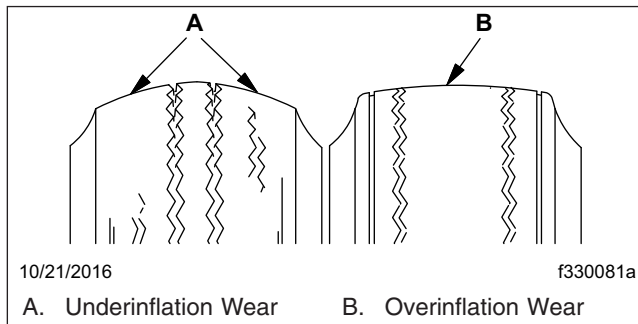

Fig. 10, Tire Damage Due to Underinflated or Overinflated Tires
- Check the inflation pressure of the tires. An underinflated tire causes tread wear completely around both tire shoulders. An overinflated tire causes tread wear in the center of the tire. See **Fig. 10**.